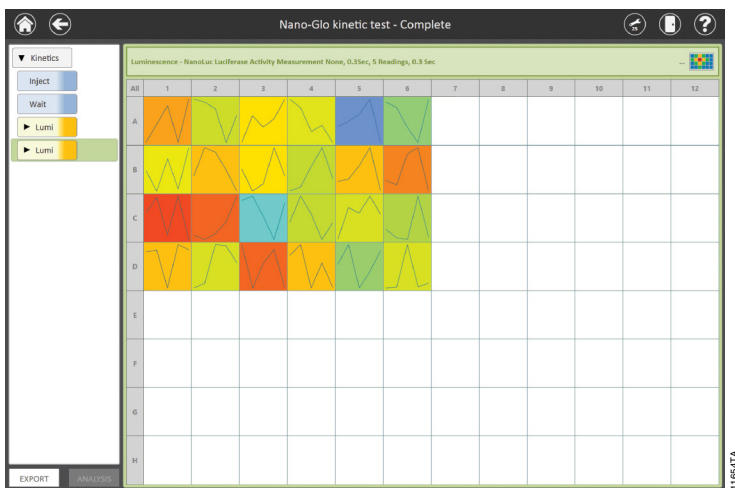

Figure 57. Results plate map for kinetic data.
Kinetic results display a graphical representation of the data during the course of the kinetics read (Figure 57). Data are automatically scaled based on the results within each well. Zoom in to view the axis for each well as desired. Users can use touch-screen gestures to zoom in or out, or to pan the well map.
- a. To analyze data, tap the **Analysis** button (bottom left corner of screen in Figure 57). Analysis functionality is described in Section 3.F, Analysis of Results. For certain result types (e.g., Basic protocols containing kinetic reads as well as Time Course protocols), the **Analysis** button will be inactive because analysis is not supported for these protocol types.
- b. To export data, tap the **Export** button (bottom left corner of screen in Figure 57). The software will export the data to the manual export folder specified by the Administrator settings (see Section 3.H, Administrator Settings). Results generated from Time Course Protocols are automatically exported to the PC in .csv format, not within the GloMax® Software. The 'Results' screen provides a link to the file pathway where the results are stored. When interfacing with a laboratory information management system (LIMS), we recommend using the .csv file and importing according to your LIMS software guidelines.